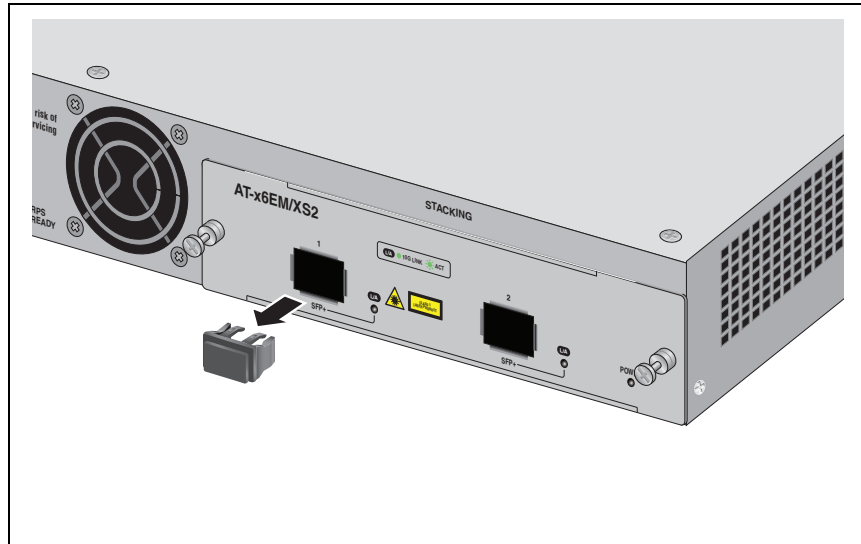

Figure 64. Removing a Dust Plug from a SFP+ Slot
1. Remove the dust plug from a transceiver slot on the switch, as shown in Figure 64.